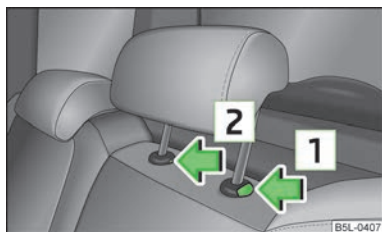

Fig. 48
- Press the locking button in the direction of arrow  » Fig. 48, simultaneously press the locking button into the opening  using a flat screwdriver with a width of maximum 5 mm and pull out the head restraint.